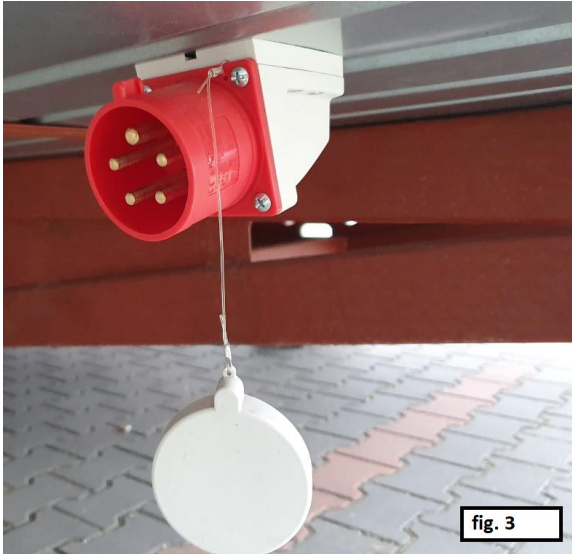
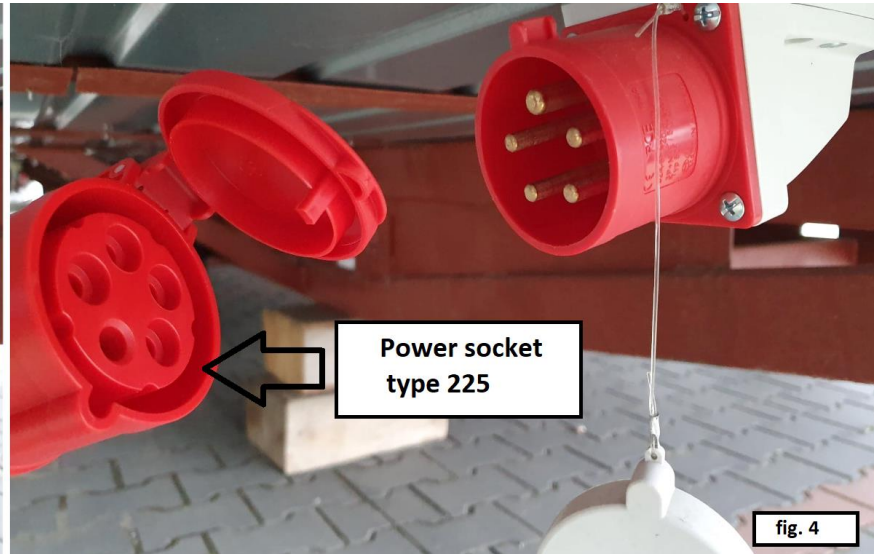

fig. 3
fig. 4
The construction should only be moved with the assistance of the drawbar which is provided together with the mounting screws. Before commencing work, the catch should be properly installed as shown in Fig.3. and the connection to a towing vehicles should be carefully inspected.
Power plug type 525, is mounted under the mobile home (fig. 3). While buying mobile home, customer gets also power socket type 225 (fig. 4).
- Open the drain valve as shown in Fig. 3.